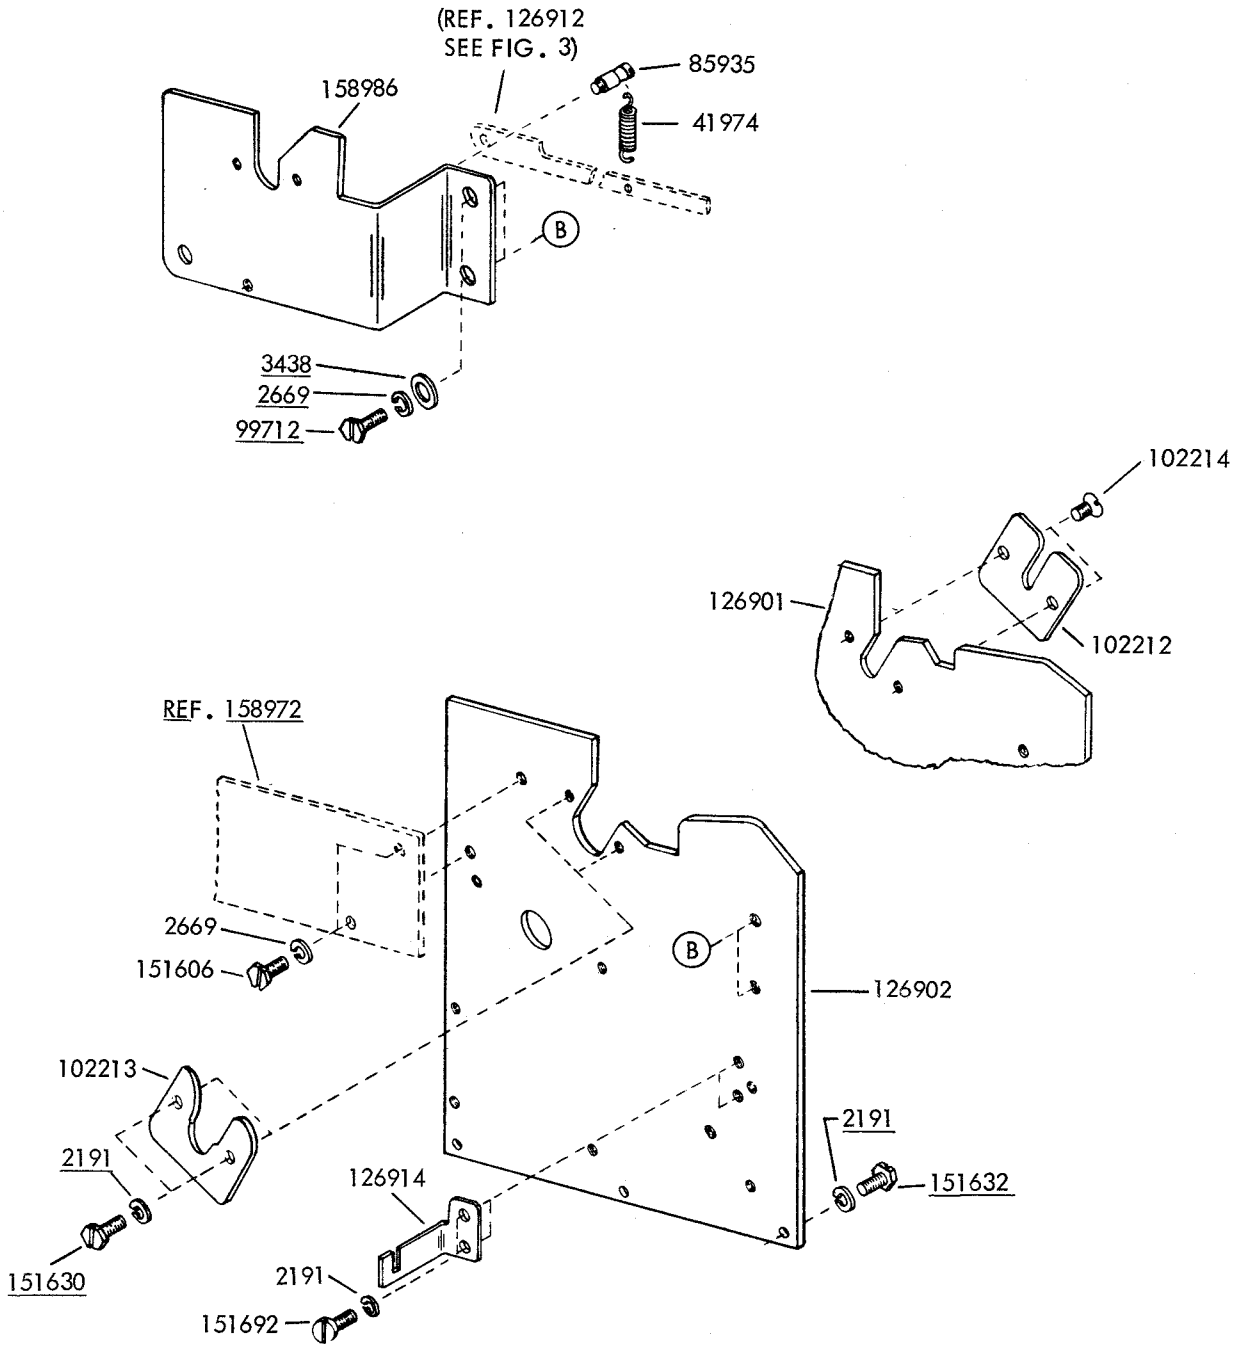

FIGURE 1
## 2. INSTALLATION (Figures 1 through 4 inclusive)
(1) Remove all parts shown in Figures 1, 2, and 3. Retain all parts shown underlined.
SEE FIG. 1)